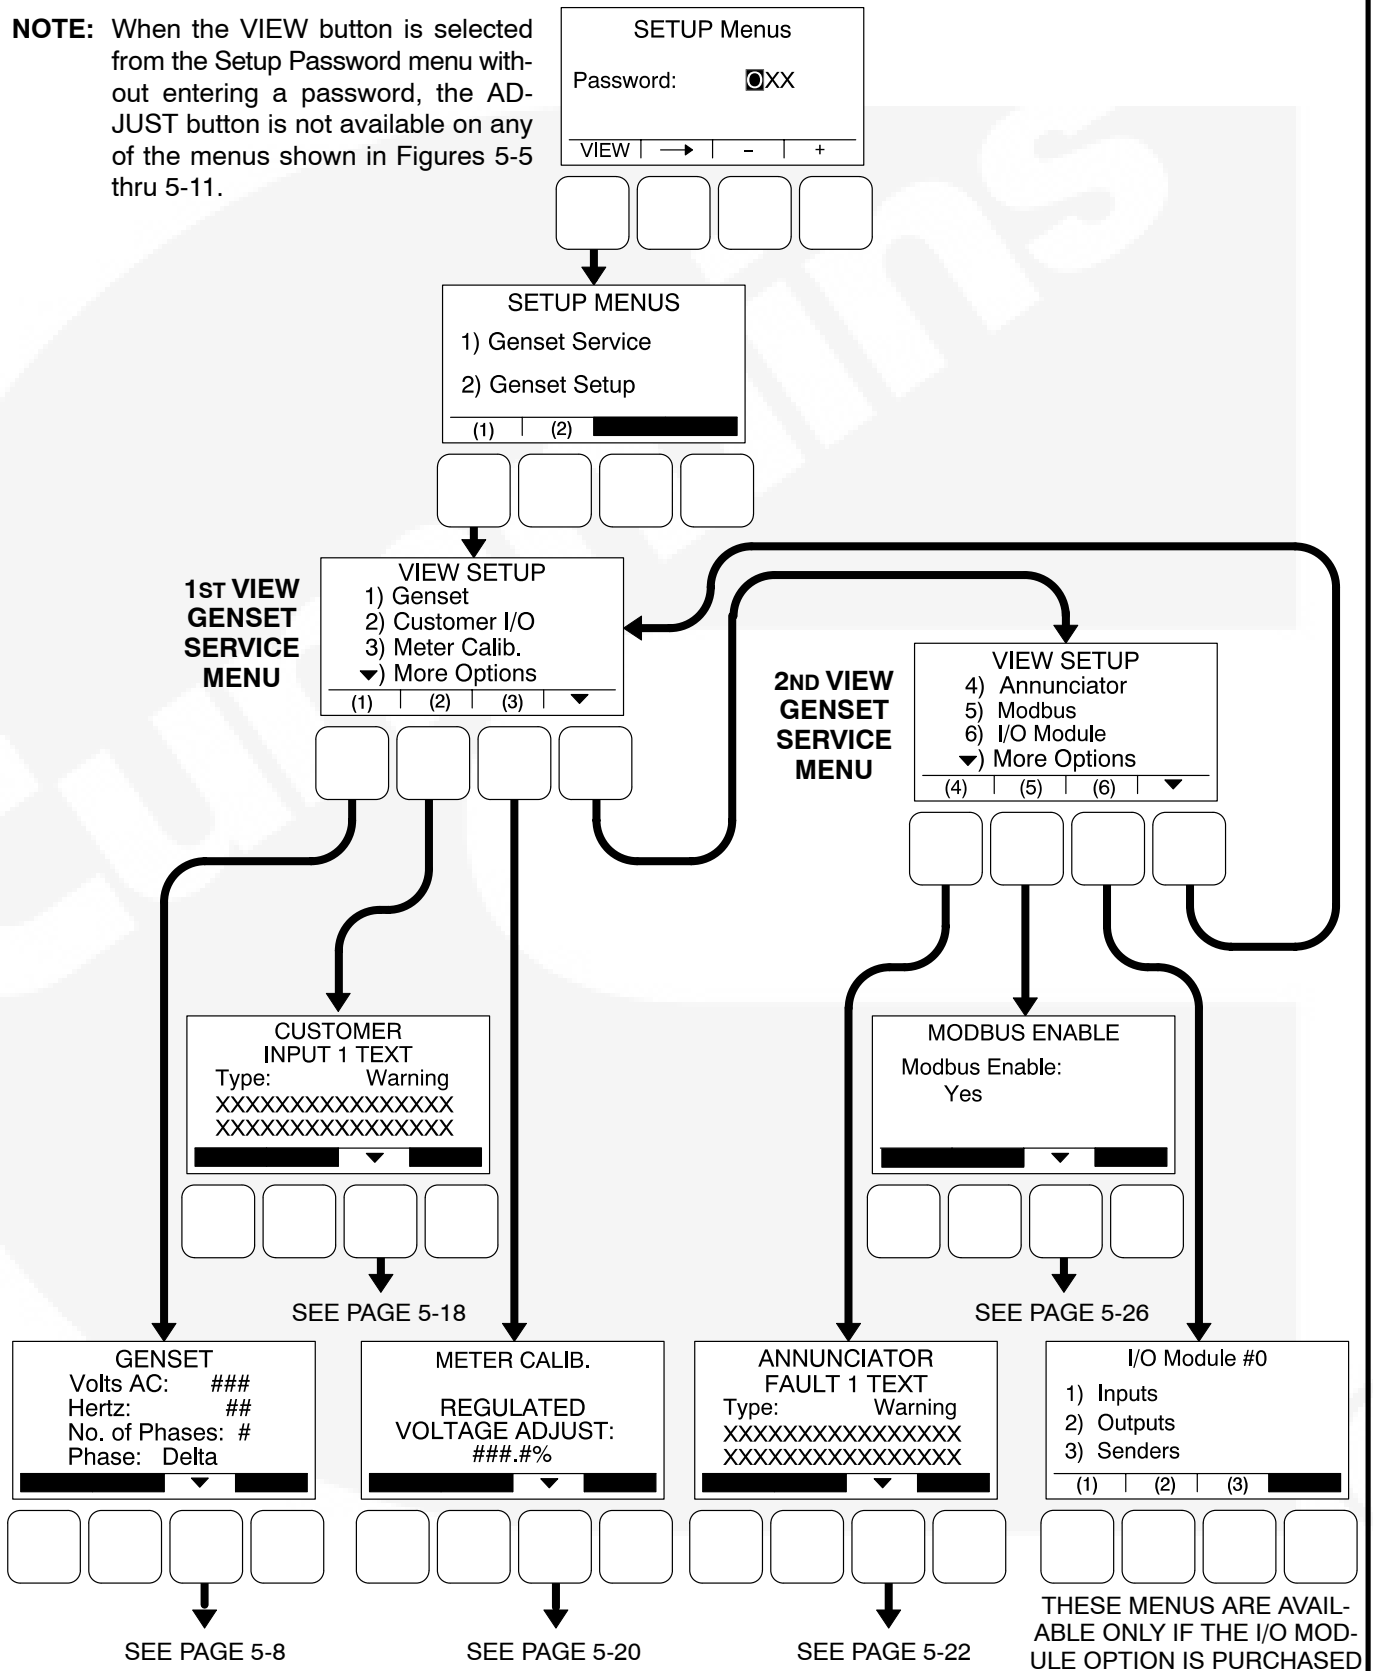
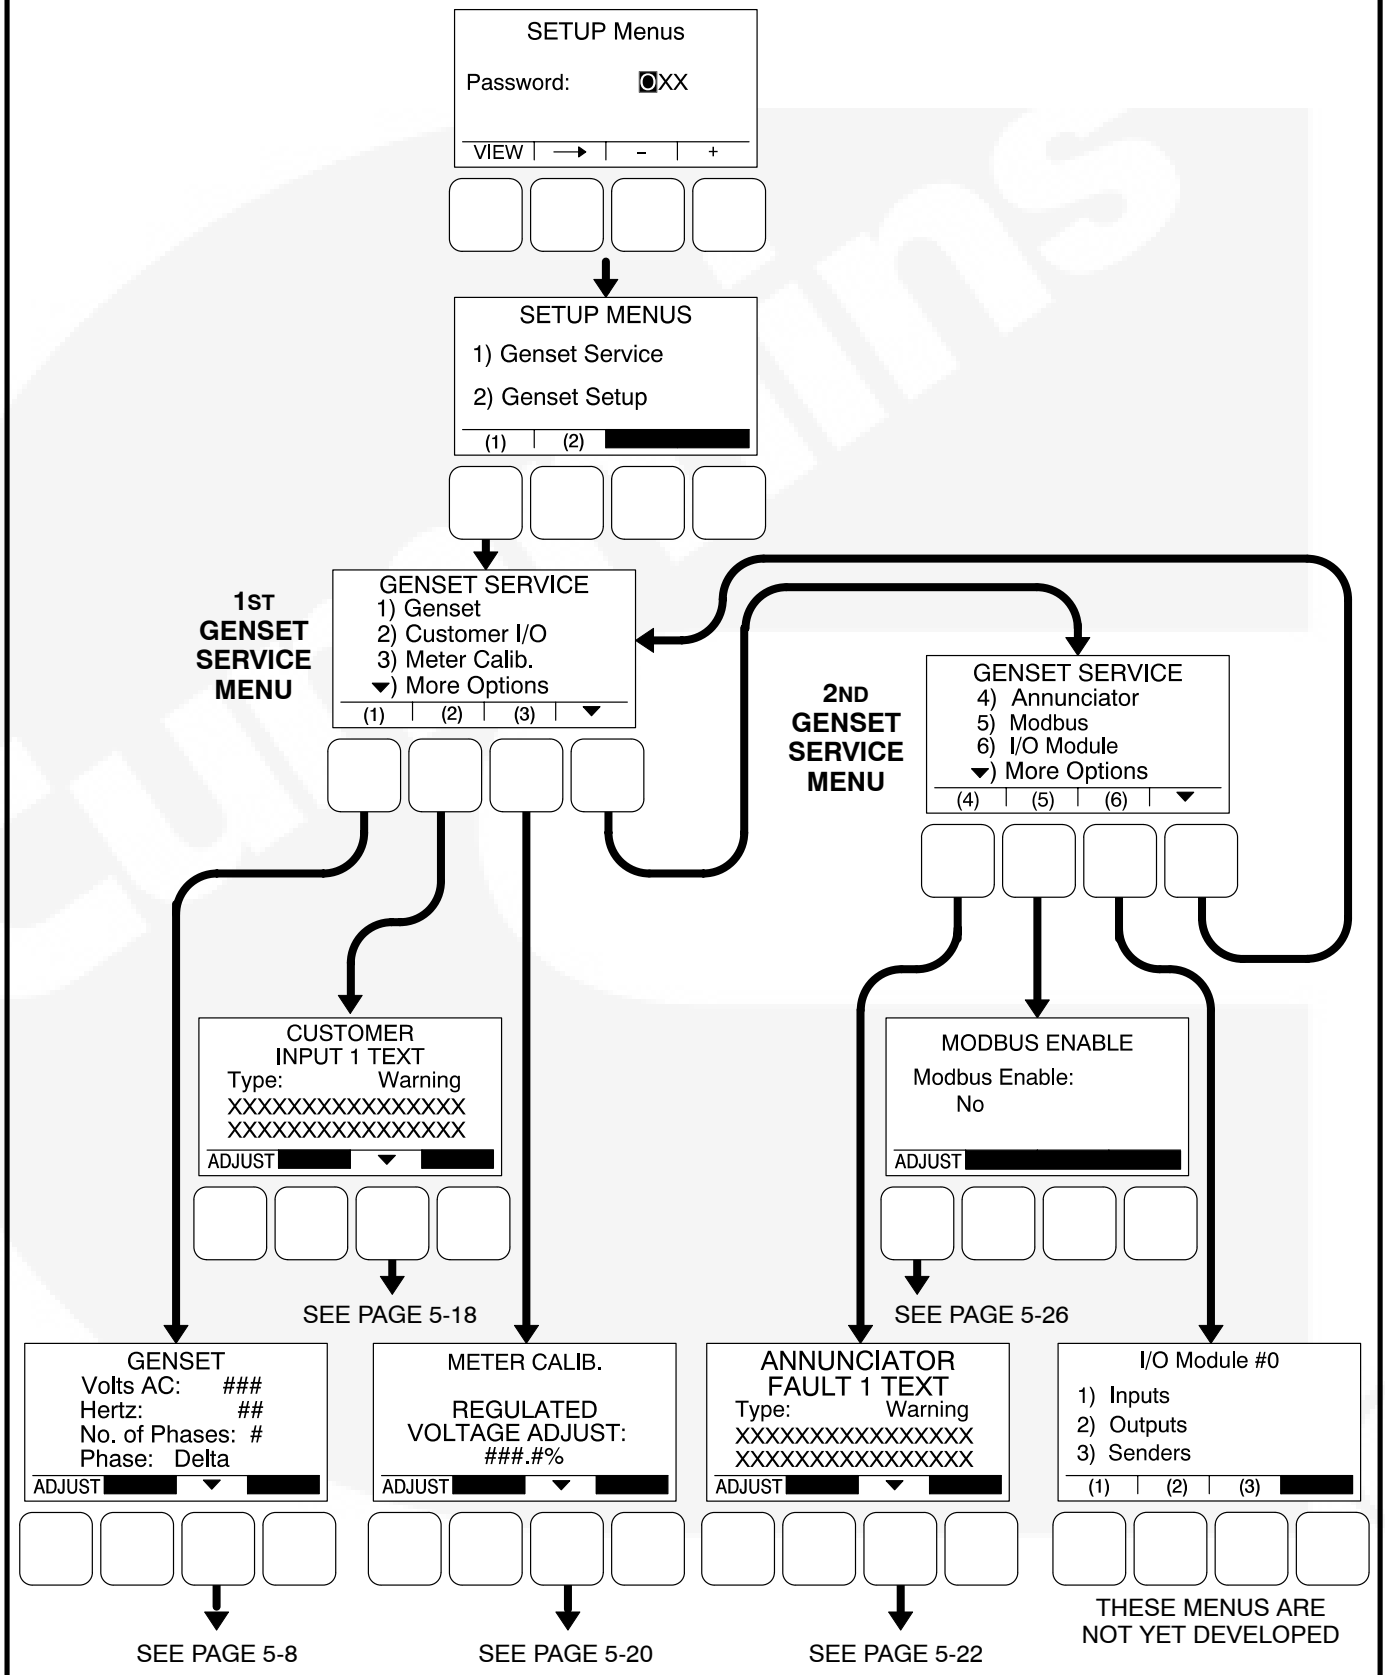

FIGURE 5-3. VIEWING GENSET SERVICE MENUS WITHOUT ENTERING A PASSWORD
FIGURE 5-4. GENSET SERVICE MENUS
Figure 5-3 is a block representation of the Genset Service menus that are available when a password is not entered (or an incorrect password is entered) in the Setup Password menu.
Figure 5-4 is a block representation of the Genset Service menus that are available from the Setup Menus menu after the correct password has been entered. The **ADJUST** button is available on these submenus; therefore, adjusting the settings is allowed.
When the Password menu is displayed, the first numeric character (0) is highlighted (see Figure 5-4).
The Genset Service submenus are available by pressing the **(1)** button on the first Genset Service menu (see Figure 5-3 or Figure 5-4).